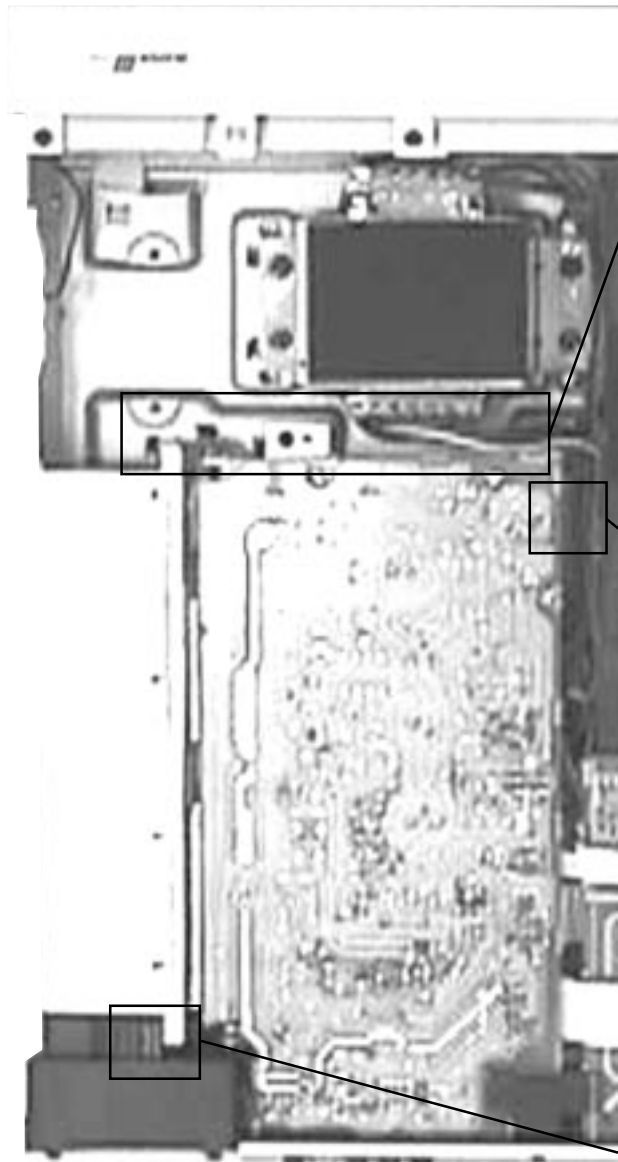

Figure 5
- 5 screws on the Plate Bottom (see Figure 5, 6, 7 & 8)